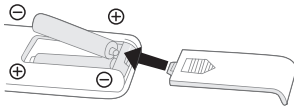

Fig.1
- Insert the batteries, and make sure that the batteries are placed as shown in the Fig.1.